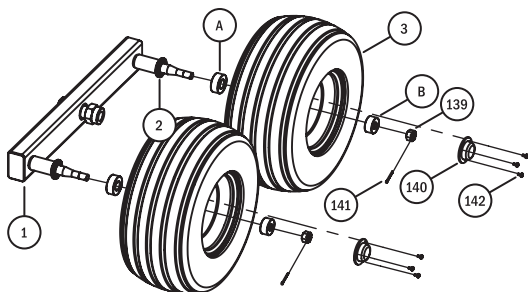

Fig. 2
**Step 5: Assemble the Tandem Trundle Axles.** The tapered wheel bearings (A and B in **Fig. 2**) are shipped on the Trundle Axle (1). Remove the Castle Nut (1), remove